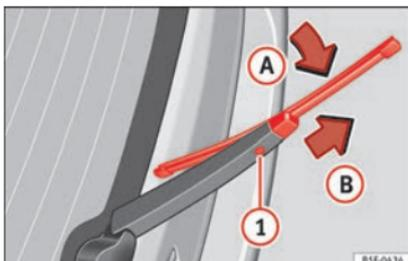

Fig. 81 Changing the rear wiper blade
- Turn the blade slightly »» **Fig. 81** (arrow **A**).
- Hold down the release button ❶ while gently pulling the blade in the direction of arrow **B**.
- Insert a new blade of the **same length and type** in the rear wiper arm in the opposite direction to the arrow **B** and hook into place button ❶.